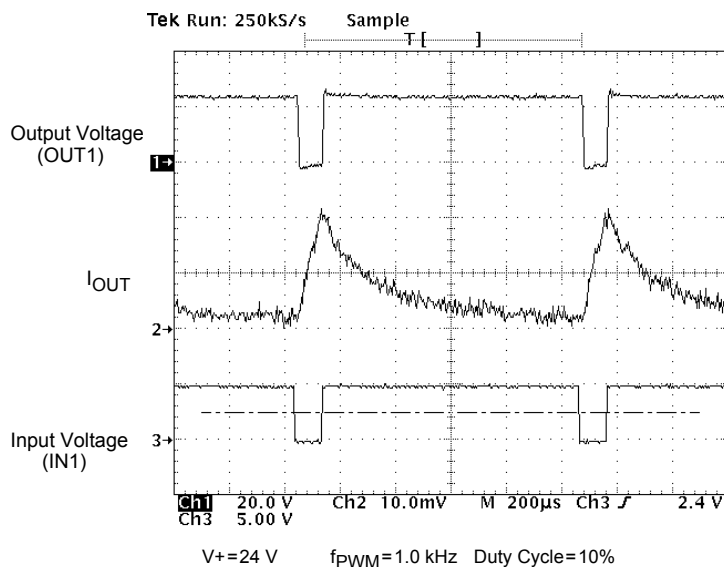

Figure 12. Output Voltage and Current vs. Input Voltage at $V+ = 24\text{ V}$, PMW Frequency of 1.0 kHz, and Duty Cycle of 10%
- 24 The outputs can be PWM-controlled from an external source. This is typically done by holding one input high while applying a PWM pulse train to the other input. The maximum PWM frequency obtainable is a compromise between switching losses and switching frequency. See Typical Switching Waveforms, Figures 12 through 19, pp. 14–17.